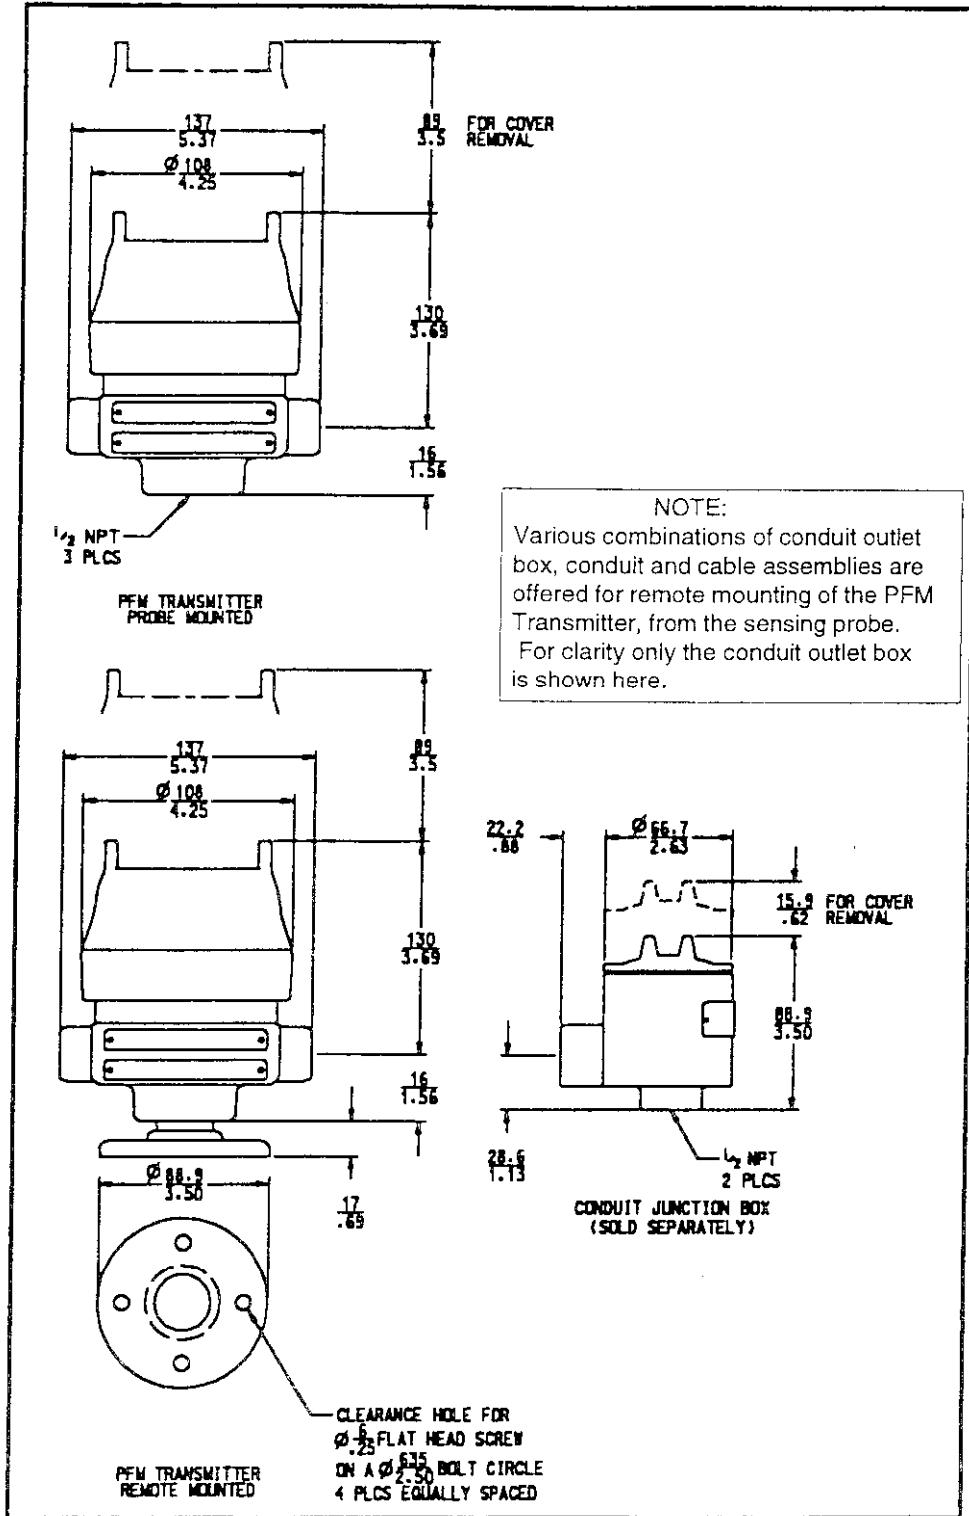

Figure 3.1 Dimensions
The PFM Transmitter is designed to be mounted remotely from the receiver unit of the system. The separation distance between the receiver and the probe can be up to one (1) mile. See Figure 3.1 for transmitter mechanical mounting details.